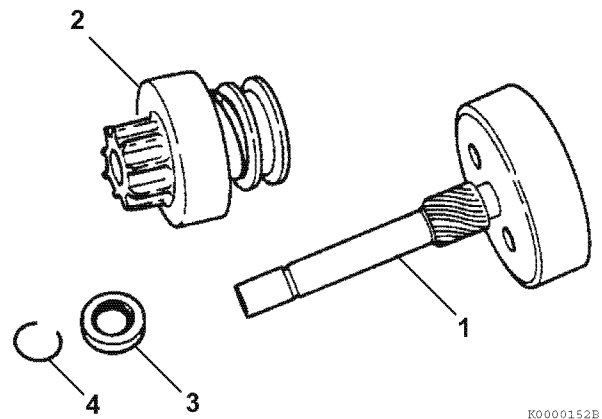

Figure 10-29
3. Reinstall the pinion clutch assembly (Figure 10-29, (2)), return spring (if equipped) and pinion stop (Figure 10-29, (3)) onto the pinion shaft (Figure 10-29, (1)). Reinstall the retaining ring (Figure 10-29, (4)) in the groove in the pinion shaft. Slide the pinion stop over the retaining ring.